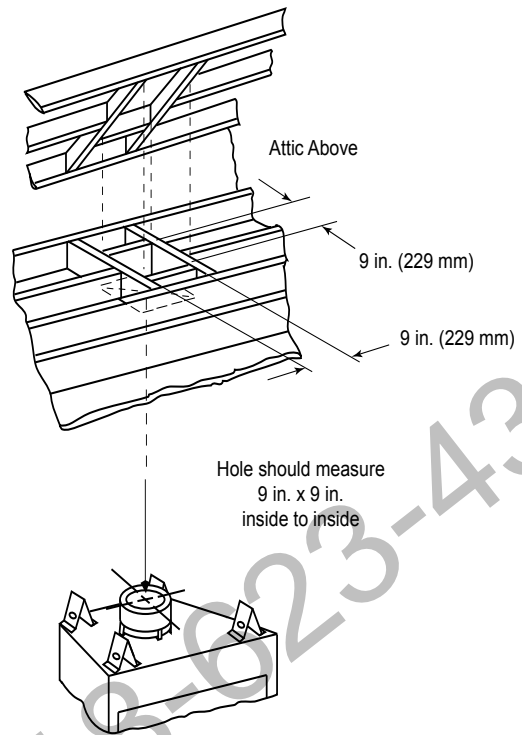

Figure 55 – Installing Ceiling Firestop
2. Install firestop spacers, *Figure 55*, when penetrating ceilings, attic spaces, or walls.
- Frame an opening 9 in. x 9 in. (229 mm x 229 mm) whenever the vent system penetrates a ceiling/floor . *Figure 55*